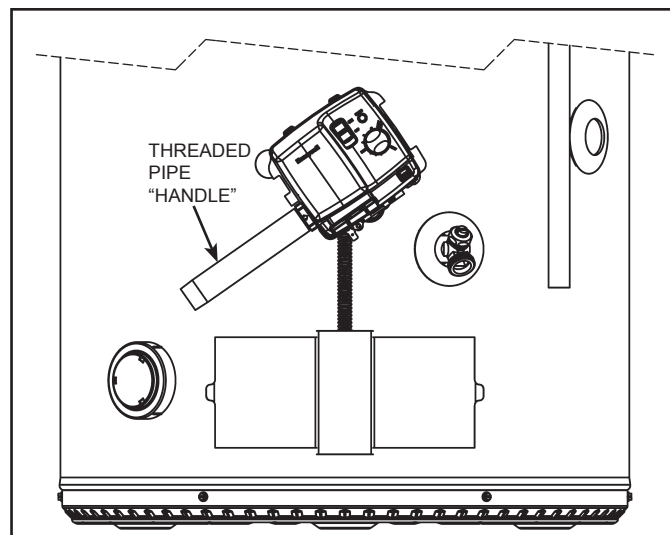

Figure 27. Using a Threaded Pipe as a Handle to Turn the Gas Control Valve/Thermostat
11. After ensuring the water heater is completely drained, thread a short length of 1/2" threaded pipe into the inlet connection of the gas control valve/thermostat and use it to turn the gas control valve/thermostat counter-clockwise to remove. See **Figure 27** (page 23). Do not use any type of wrench on the valve body as it may cause damage to the gas control valve/thermostat assembly.
See **Figure 27** (page 23).